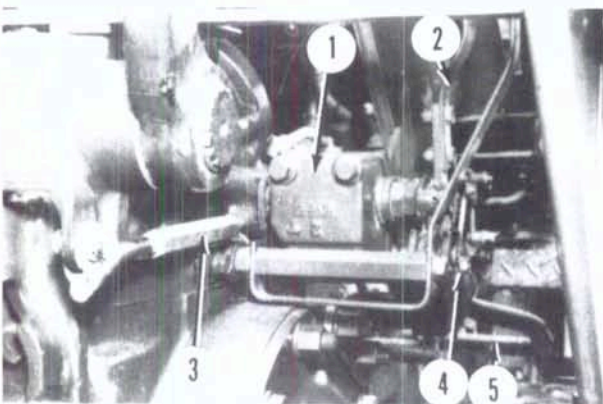

Fig. 170—Draft control valve (models so equipped) is mounted on right side of rockshaft housing.
126. R&R AND OVERHAUL. To remove draft control valve (1 - Fig. 170), proceed as follows: Disconnect feedback rod (3) and remove control lever (2). Remove differential lock pedal (5) and bracket (4). Unbolt and remove valve assembly.